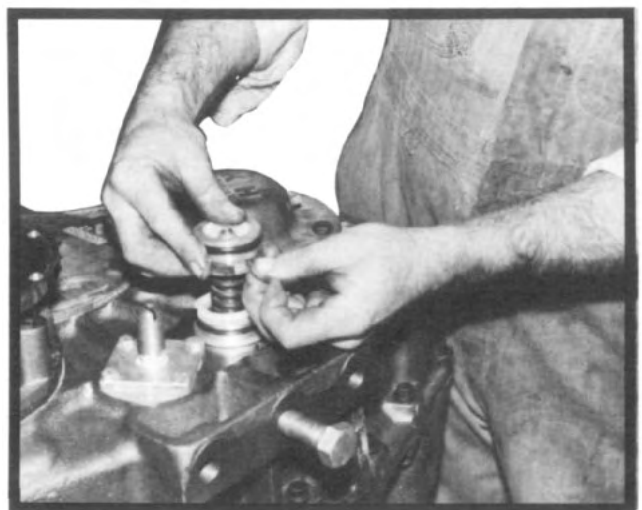

Fig. 34
5. Place piston over shift shaft with the shallower of the two grooves toward the shaft. Make sure small O-ring on shaft is seating in chamfer in piston bore. Depress the spring with the piston and secure piston with the washer and locknut. Tighten locknut to correct torque. Place an oil soaked felt wiper in shallow groove on piston and an O-ring in the deep groove (see fig. 34).